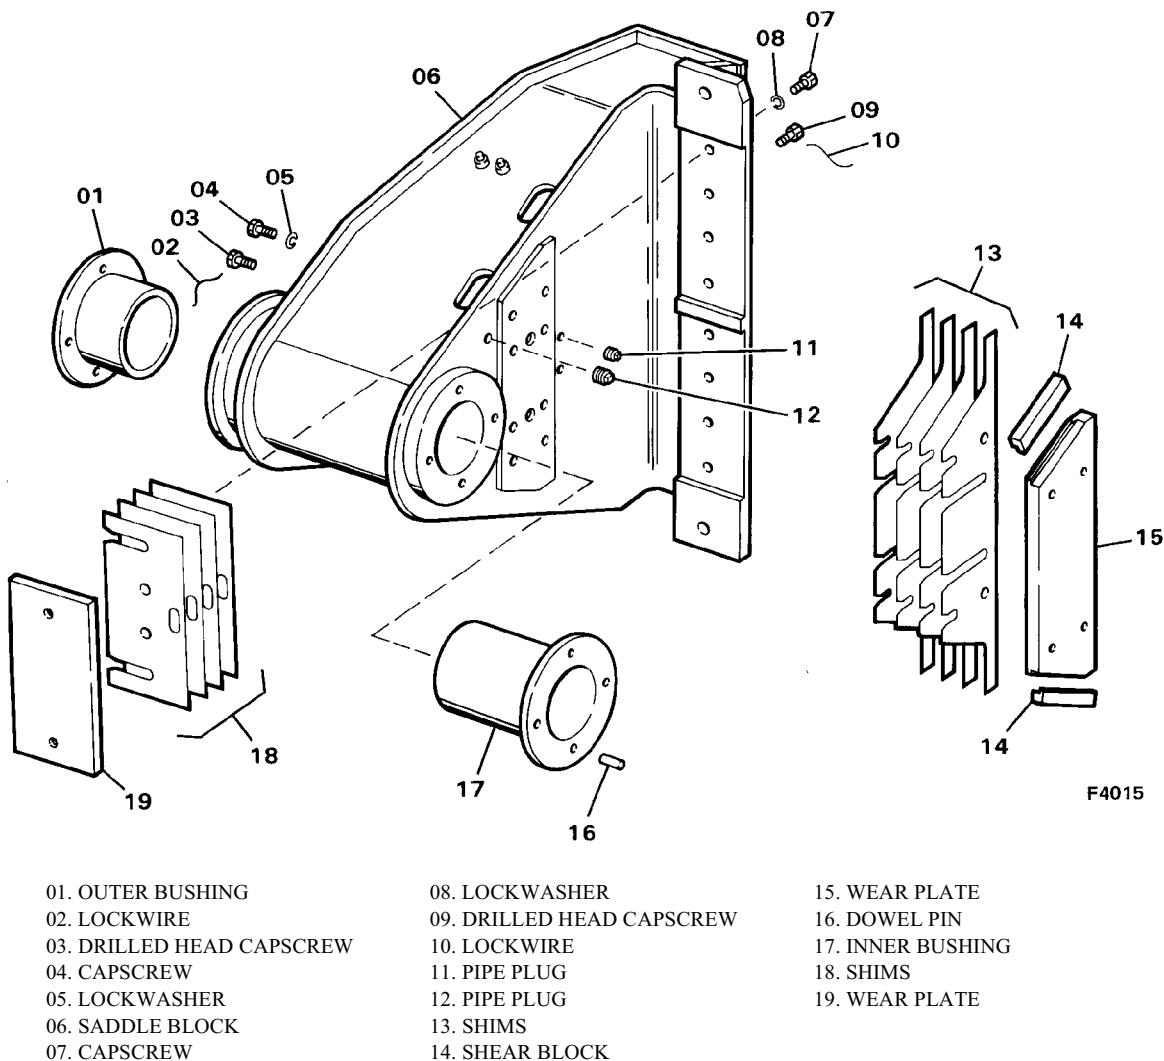
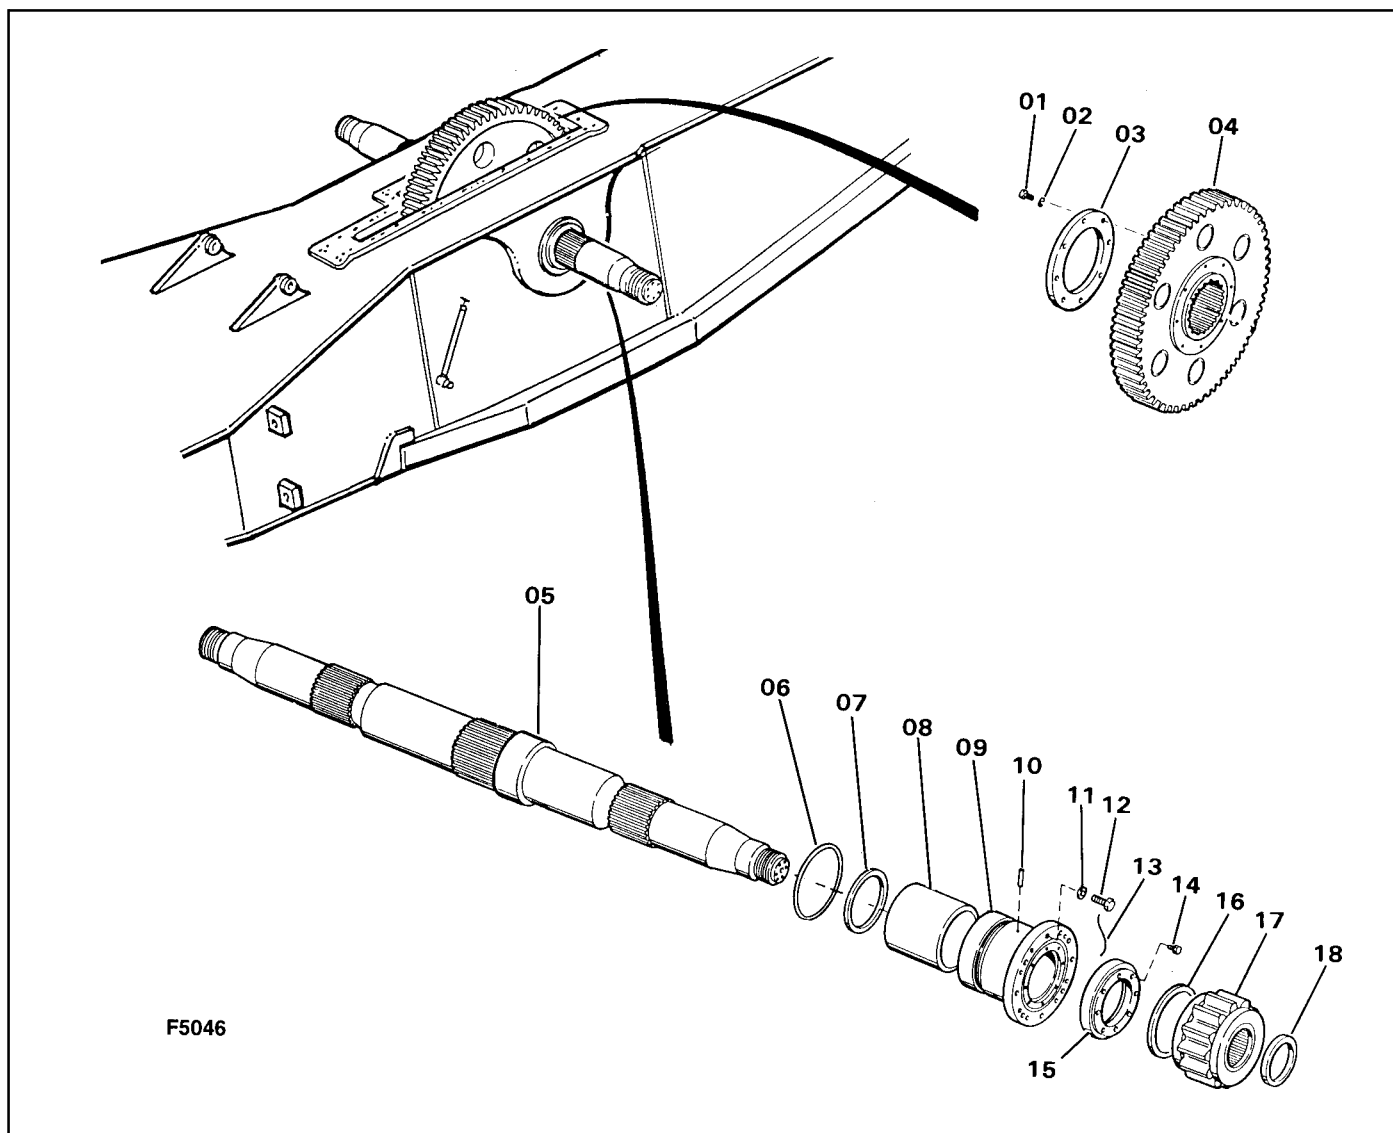

Figure 6-18. Saddle Block Disassembly/Assembly
Figure 6-19. Shipper Shaft Removal/Disassembly
5. Disassemble saddle blocks (06, Figure 6-18) as follows:
- B. Remove dowel pins (16) from the inner and outer faces of the bore in the saddle block.
- C. Remove lockwire (02), capscrews (03 and 04) and lockwashers (05) from the side of the saddle block.
- D. Remove wear plate (15) and shims (13) from the inner side of the saddle block.
- E. Remove wear plates (19) and shims (18) by removing lockwire (10), capscrews (09 and 07) and lockwashers (08) from the top end of the saddle block.
6. Remove the two spacers (18) and shipper shaft pinions (17, Figure 6-19) and lower them to the ground. Each pinion weighs approximately 2200 lbs (959 kg).
7. Support drive gear (04) to prevent the shipper shaft and gear from dropping during disassembly.
8. Remove capscrews (14) and thrust washers (15) from the shipper shaft, then remove V-ring seal (20) from thrust washer (15).
9. Remove bushing retainer assembly (09) at each end of the shaft as follows.
ASSEMBLY AND INSTALLATION. Refer to Figure 6-19 to assemble and install the shipper shaft assembly as follows:
6. Install shipper shaft pinions (17) on each end of the shipper shaft. The pinions must be aligned by installing the pinions with the two chamfer marks on the pinions straddling the chamfer mark on the shipper shaft spline.
7. Install spacers (18) on each end of the shipper shaft.
8. Refer to Figure 6-18 and assemble the two saddle blocks as follows:
A. Install vertical wear plate (15) and shims (13) and secure with cap screws and spring washers (04 and 05).
B. Install horizontal wear plates (19) and shims (18) and secure with cap screws and spring washers (07 and 09).